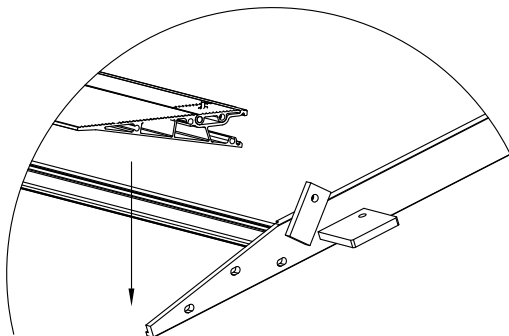

Figure 5: Taper positioning.
1. **Lower** the taper down while in a rotated up position (Figure 5).